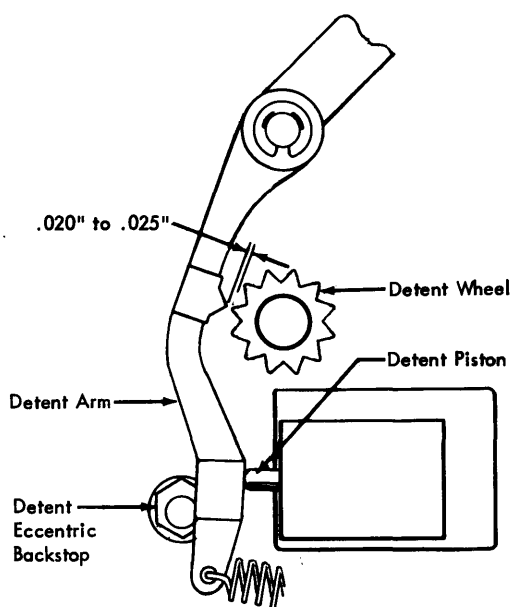

Figure 49. Detent Adjustment
5. Adjust the detent backstop for a clearance of .020" to .025" between the detent arm and the detent wheel when the arm is held against the backstop (Figure 49).